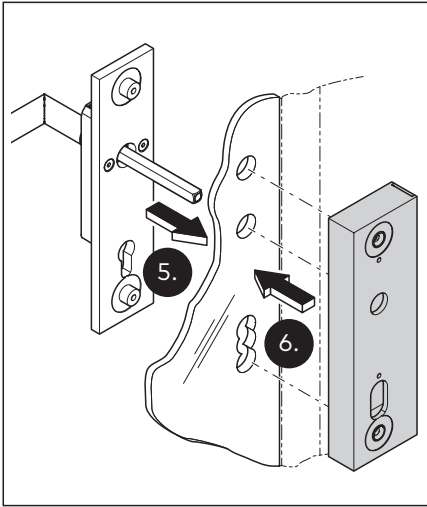

Fig. 32 Attach the lock mortise and the screw-on plate
5. Hold the screw-on plate against the door on the side opposite the lock (Fig. 32).